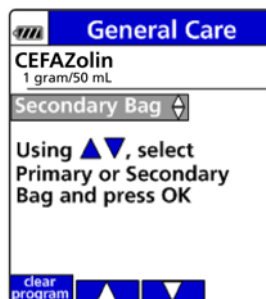

Figure 46. Secondary Bag Selection Screen.
- Press **OK** to select the secondary bag or press the arrow soft keys to change to the primary bag, if needed. See Figure 46.